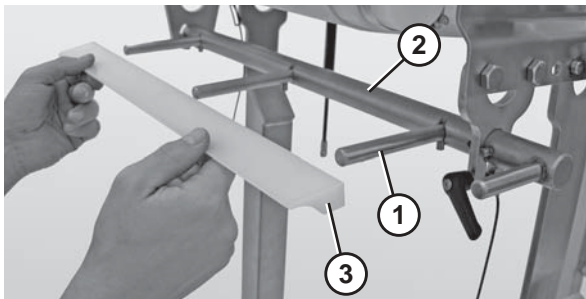

Figure 18
1. If equipped, remove scraper blade (**Figure 18, item 3**) and scraper bar posts (**Figure 18, item 1**) from scraper shaft (**Figure 18, item 2**).